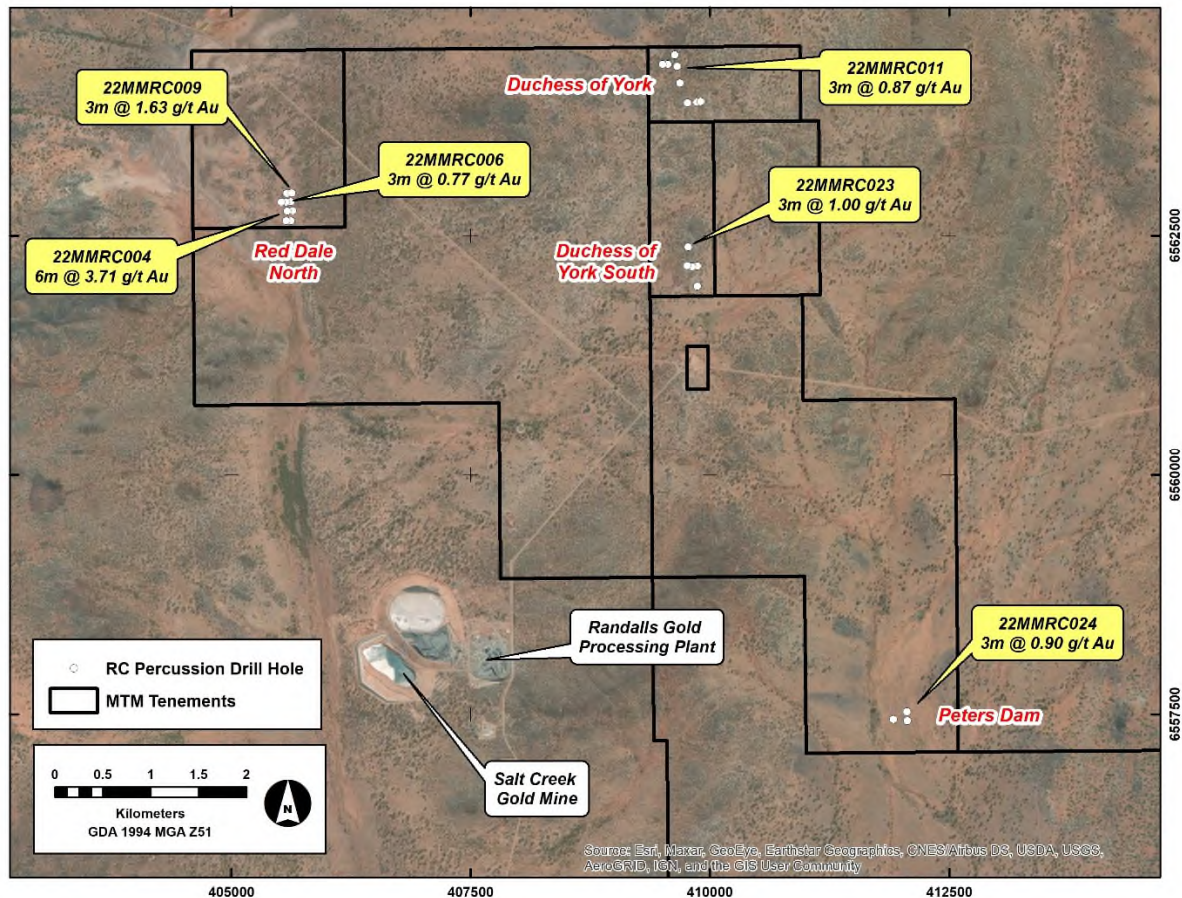

Figure 1: Location of completed RC percussion drill holes at the Mt Monger project with selected gold mineralisation intersections.
A total of 26 reverse circulation (RC) percussion drill holes were completed, for a total of 1,731 metres of drilling (see hole details in Appendix I and diagram of collar locations in Figure 1). The drilling was designed to test gold mineralisation known at a number of prospect areas at the Mt Monger project, including Red Dale North, Duchess of York, Duchess of York South and Peters Dam.